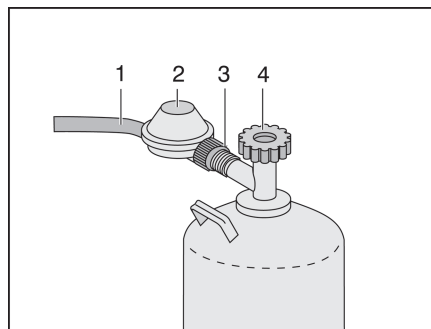

Fig. 66 Gas bottle connection
- Close the regulator tap (Fig. 66,4) on the gas bottle. Pay attention to the direction of the arrow.
- Hold the gas pressure regulator (Fig. 66,2) and open the knurled nut (Fig. 66,3) (left-handed thread).
- Remove the gas pressure regulator and the gas tube (Fig. 66,1) from the gas bottle.
- Position the gas pressure regulator (Fig. 66,2) and the gas tube (Fig. 66,1) on the gas bottle and tighten the knurled nut (Fig. 66,3) by hand (left-handed thread).